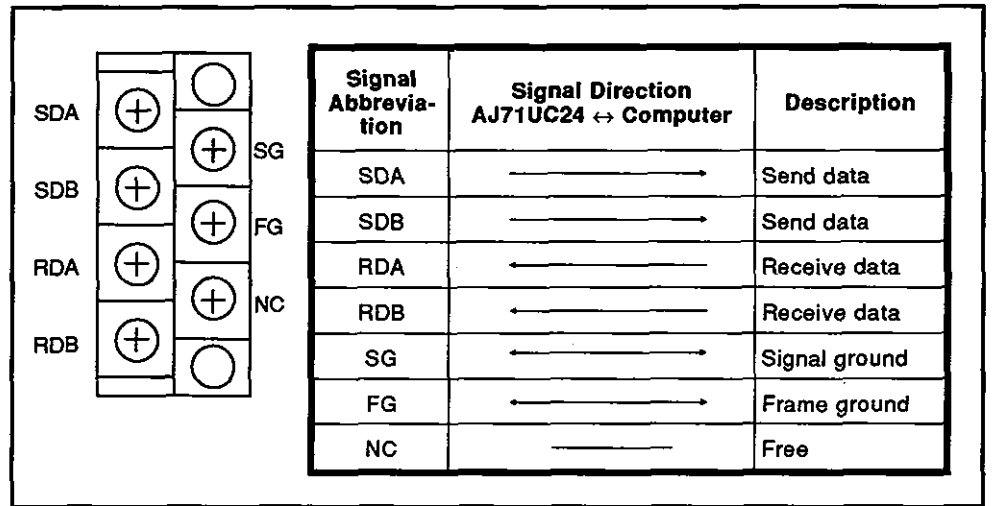

Fig. 3.1 RS-422/485 Interface
(1) Fig. 3.1 shows the specifications of the RS-422/485 interface for connection with the computer or AJ71UC24.